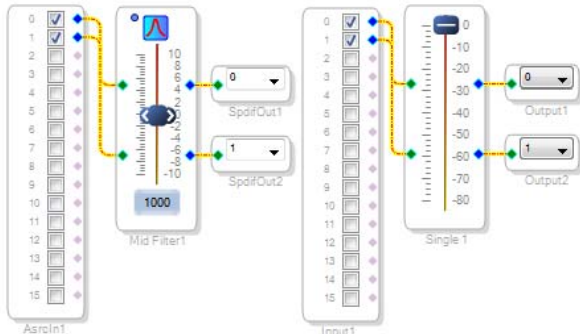

Figure 51. Completed Signal Flow
- Connect the filter in series between the **Asrc Input** block and the **Spdif Output** blocks so that the filter can be applied to the signals passing through the DSP. The completed signal flow resembles Figure 51.